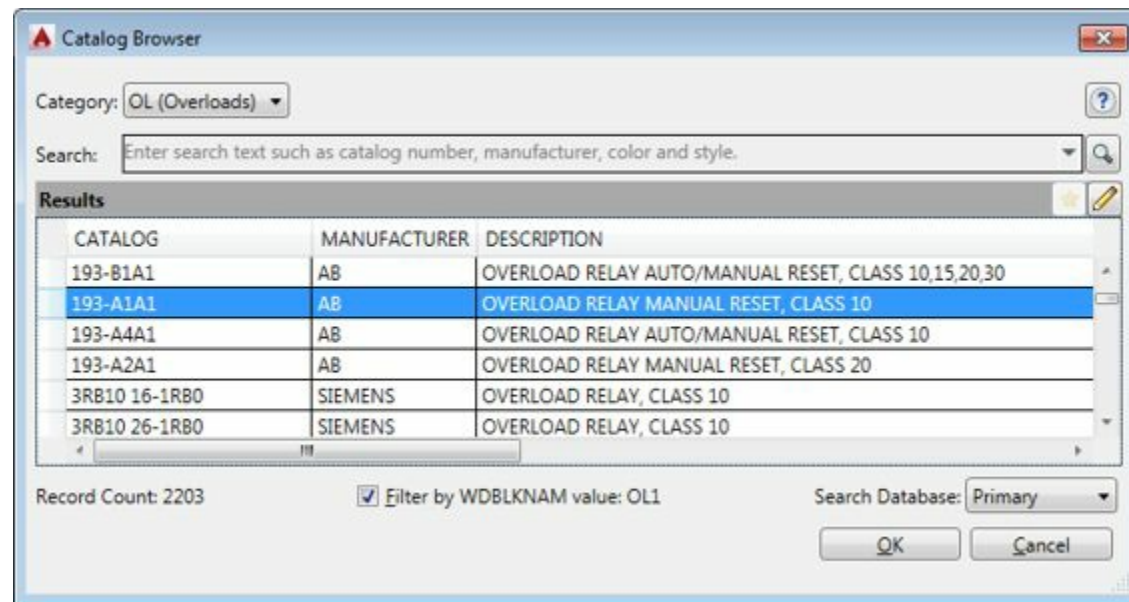

Figure-19. Catalog Browser with Overloads components
- Click on the **193-A1A1** field in the **CATALOG** column from the dialog box; refer to Figure-19.